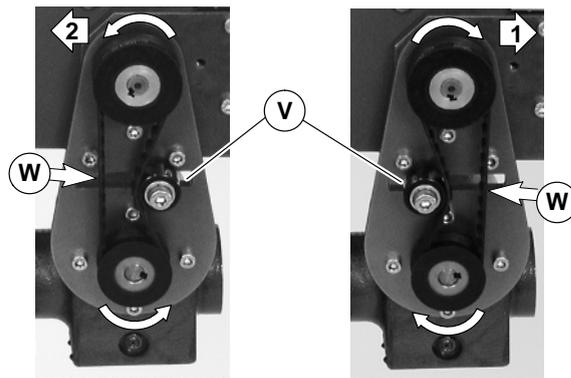

Figure 10
- Depending on conveyor belt travel (direction 1 or 2), locate timing belt tensioner (V of Figure 10) as shown. Tension timing belt to obtain 3 mm deflection for 456 grams of force at timing belt mid-point (W). Tighten tensioner screw to 12 Nm.
3. Depending on conveyor belt travel (direction 1 or 2), locate timing belt tensioner (V of Figure 10) as shown. Tension timing belt to obtain 3 mm deflection for 456 grams of force at timing belt mid-point (W). Tighten tensioner screw to 12 Nm.
5. Depending on conveyor belt travel (direction 1 or 2), locate timing belt tensioner (V of Figure 10) as shown. Tension timing belt to obtain 3 mm deflection for 456 grams of force at timing belt mid-point (W). Tighten tensioner screw to 12 Nm.